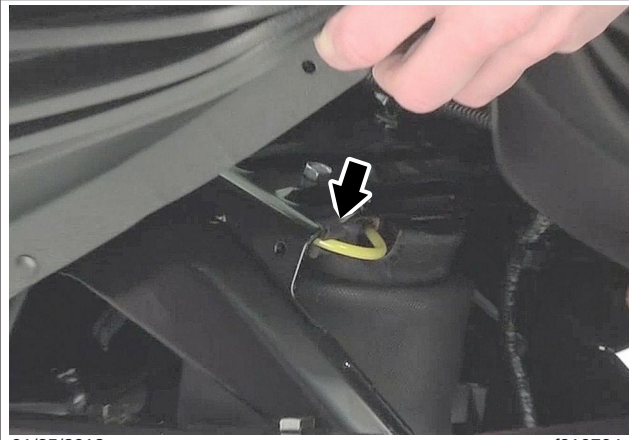

Fig. 4, Air Hose Clip, Seat Base
8. Hold the suspension skirt (if equipped) up at the left rear corner of the seat and remove the hose clip from the upper air spring bracket. See Fig. 4.
17. At the rear of the seat, attach the yellow air line to the upper air spring bracket with a hose clip. See Fig. 4.